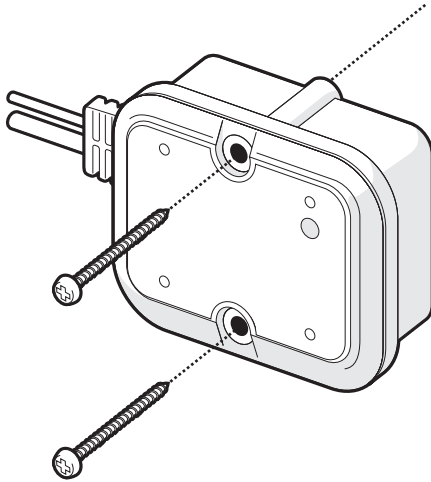

Figure 6 AIS receiver mounting
- The product is supplied with two self tapping screws for attachment of the AIS receiver to a suitable surface. Please refer to Figure 6 for guidance.